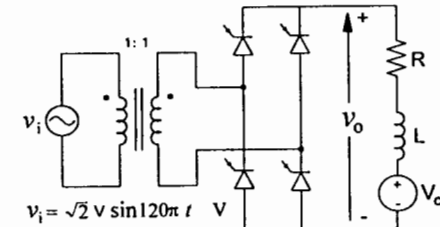

Figure 2: A full-wave controlled rectifier.
2. A single-phase, full-wave, phase-controlled rectifier supplies an inductive load as shown in Figure 2. For  $V = 240$  V,  $L = 14$  mH,  $R = 2 \Omega$ ,  $V_c = 100$  V and  $\alpha = 35^\circ$ ;